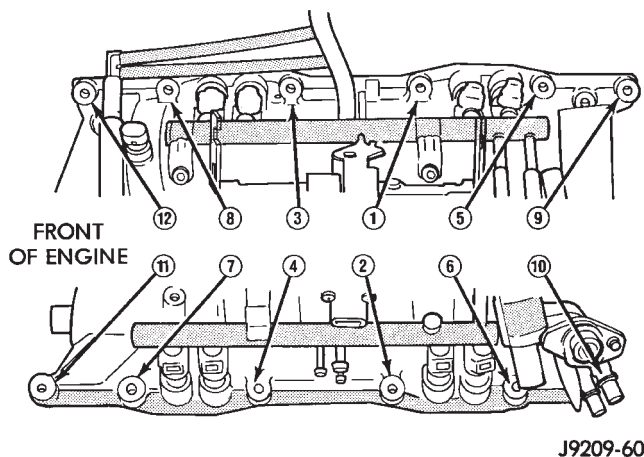

Fig. 14 Intake Manifold Bolt Tightening Sequence
(7) Carefully lower intake manifold into position on the cylinder block and cylinder heads. Use the alignment dowels in the cross-over gaskets to position the intake manifold. After intake manifold is in place, inspect to make sure seals are in place.
(8) The following torque sequence duplicates the expected results of the automated assembly system (Fig. 14).